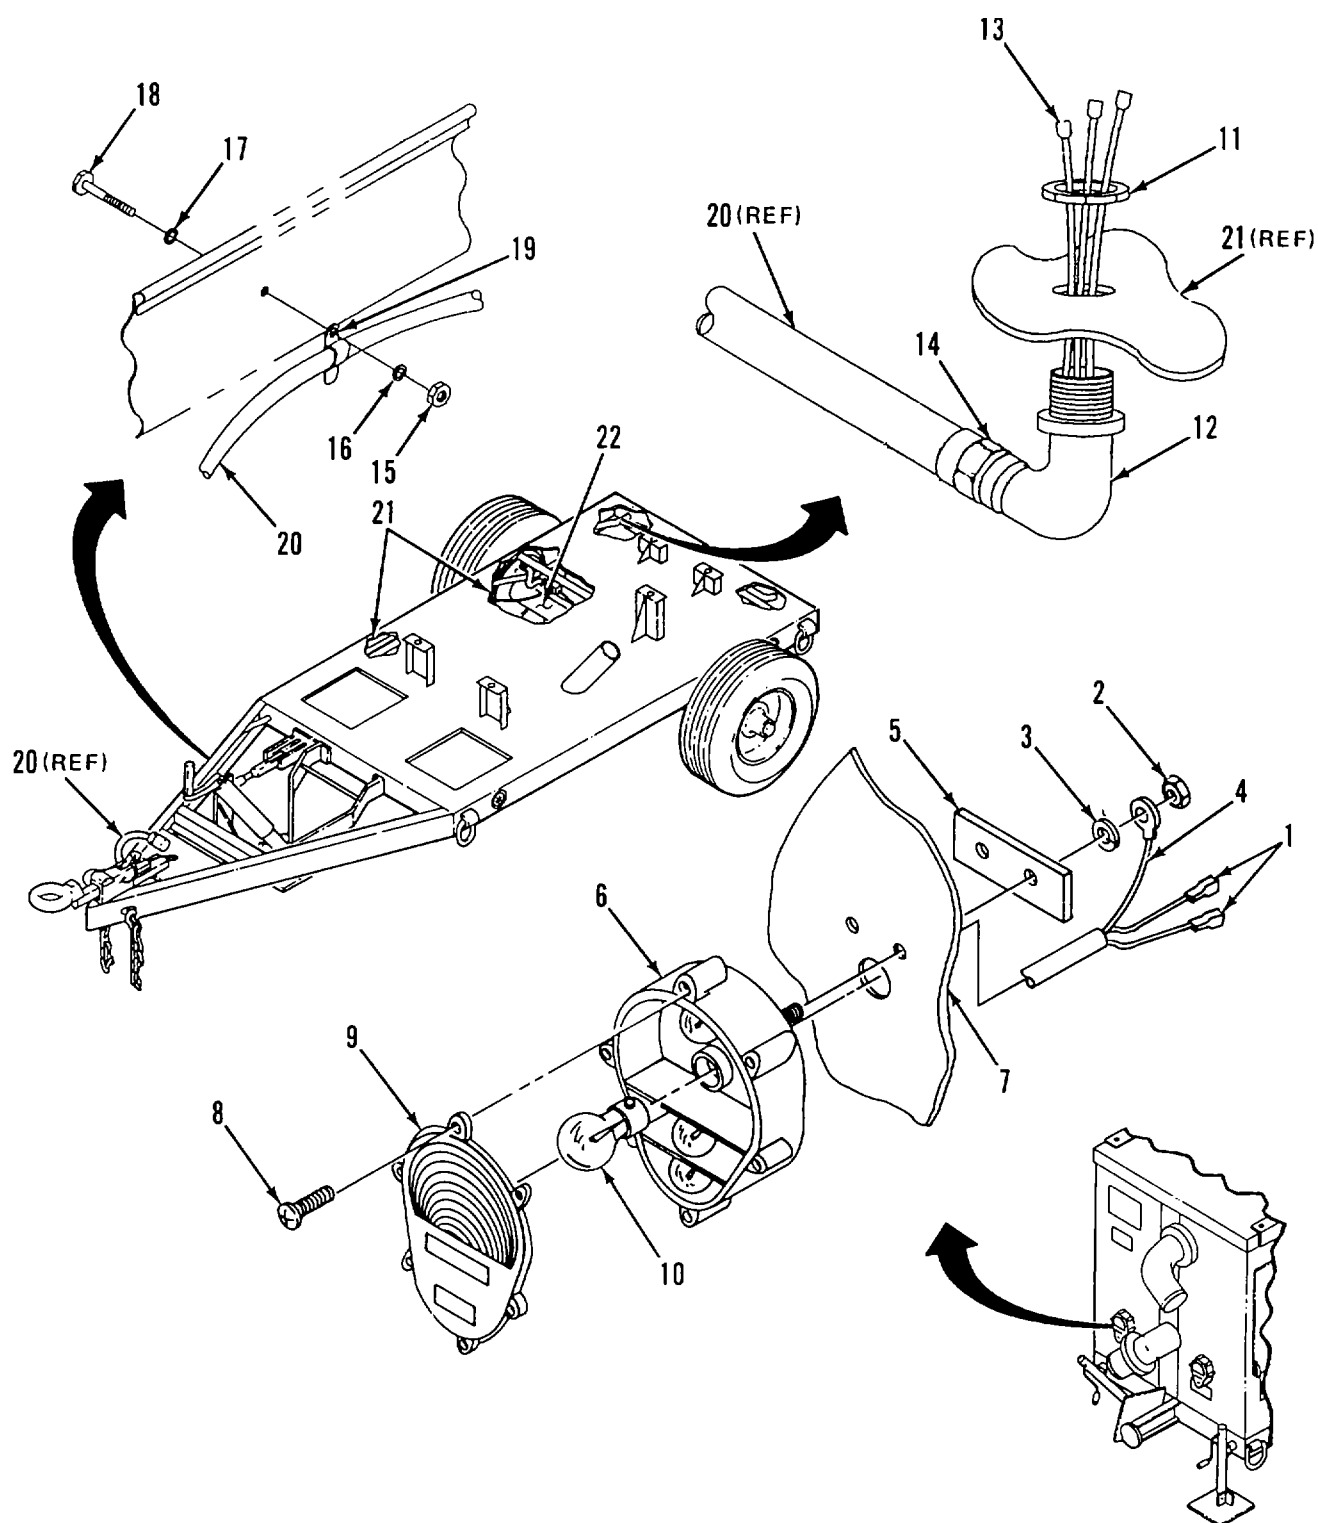

Figure 2-49. Wiring Harness and Tail Lights
a. REMOVE. (Figure 2-49)
(1) Remove tail lights as follows:
- (b) Disconnect wire connectors (1) to tail light (5).
- (c) Remove nuts (2), lockwashers (3), ground wire (4), and plate (5) holding tail light (6) to panel (7). Remove tail light.
- (d) Remove screws (8) and lens plate (9) on tail light assembly (6).
- (e) If necessary, remove bulbs (10).
(2) Remove wiring harness as follows:
- (a) Remove nut (11) that secures elbow (12) to floor of chassis. Remove elbow (12) and tail light wires (13) to below chassis.
- (b) Loosen compression nut (14) from elbow (12). Remove elbow (12) from tail light wires (13).